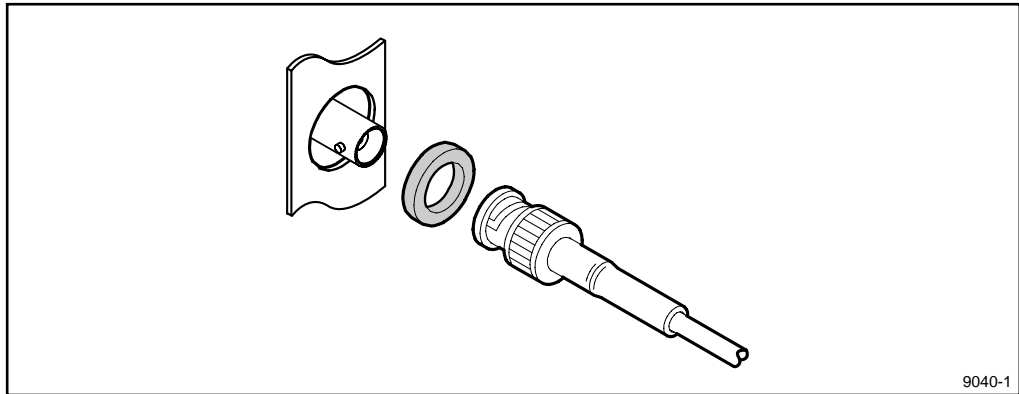

Figure 2-6. BNC Connection With EMI Gasket
To insure compliance with EMI standards, all BNC cable connections require that an EMI suppression gasket be attached as shown in Figure 2-6. Your Profile shipment included a set of gaskets.
2. Place EMI gaskets on the BNC connectors as shown in Figure 2-6.
1. Place EMI gaskets on the four BNC connectors as shown in Figure 2-6.
1. Place an EMI gasket on both BNC connectors as shown in Figure 2-6.
1. Place an EMI gasket on each BNC connector as shown in Figure 2-6.
1. Place an EMI gasket on the three BNC connectors as shown in Figure 2-6.